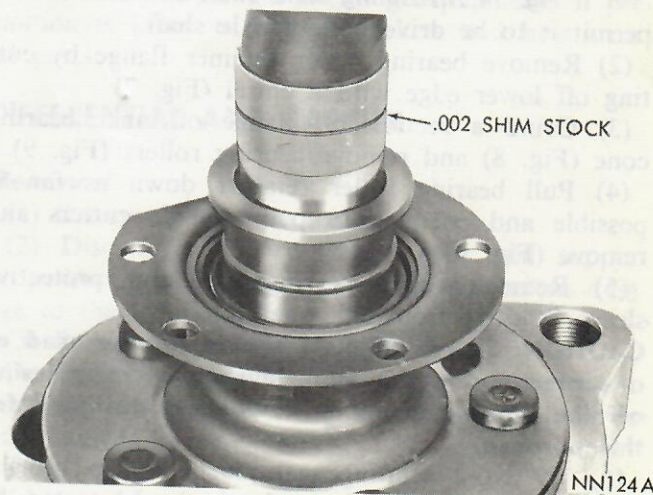

Fig. 11 Seal Journal Protection bearing journal and thereby weakens this area.
(6) To avoid scuffing seal journal when bearing cone is being removed, it should be protected by single wrap of .002 thickness shimstock held in place by a rubber band (Fig. 11).